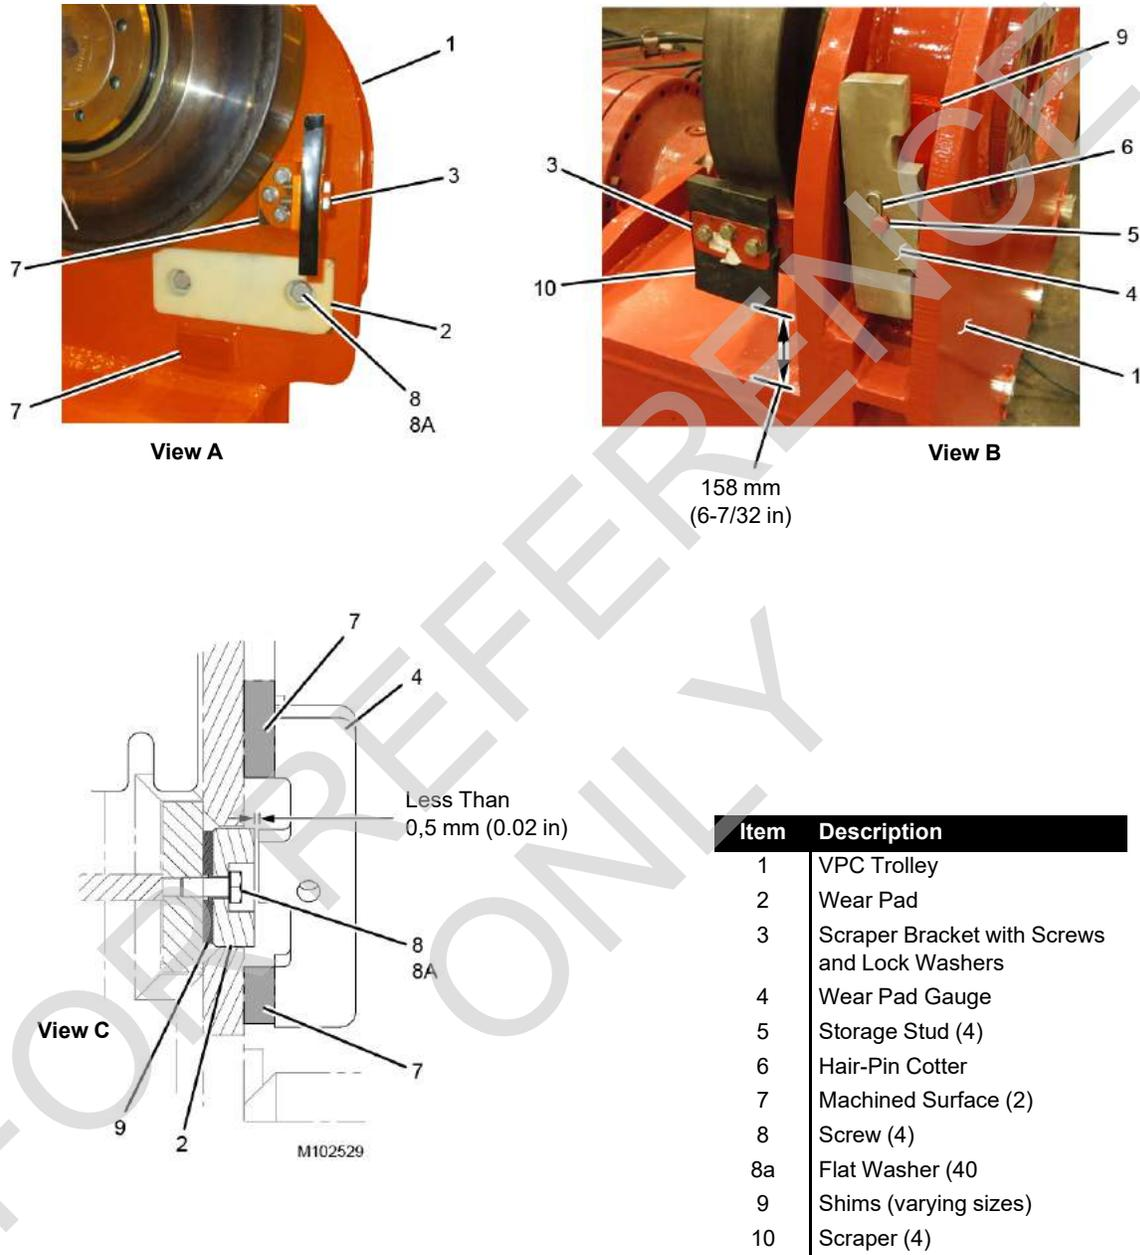

Figure 4-37
See Figure 4-37 for the following steps.
- a. Watch the scrapers (see Figure 4-37 on page 4-54) as the trolley is driven forward. If necessary, adjust the scrapers so they are touching the roller paths.